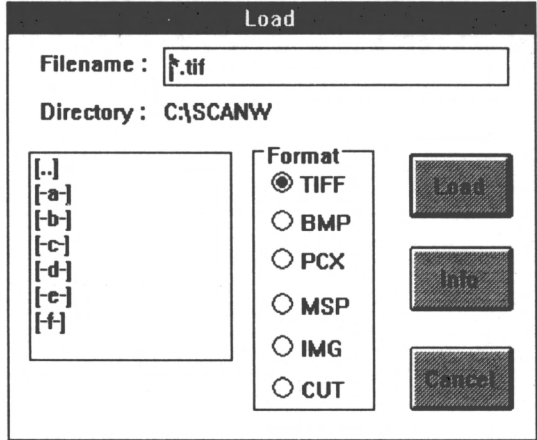

Figure 3-1. The Load Dialog Box
1. Click **Load** to display the Load dialog box (Figure 3-1).